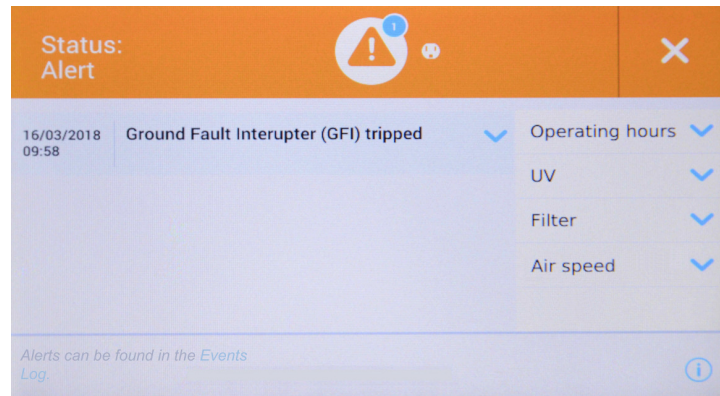

Figure 57 “Status Alert” Screen with Alert Screen Message, Status Alert GFI
If you tap the “Alert triangle” icon, you will be taken directly to the “Status Alert” screen with its alert list, shown in Figure 57.
3. Tap the yellow “Health Status Alert” icon to display the “Status Alert” screen shown in Figure 57 and review the alerts list.